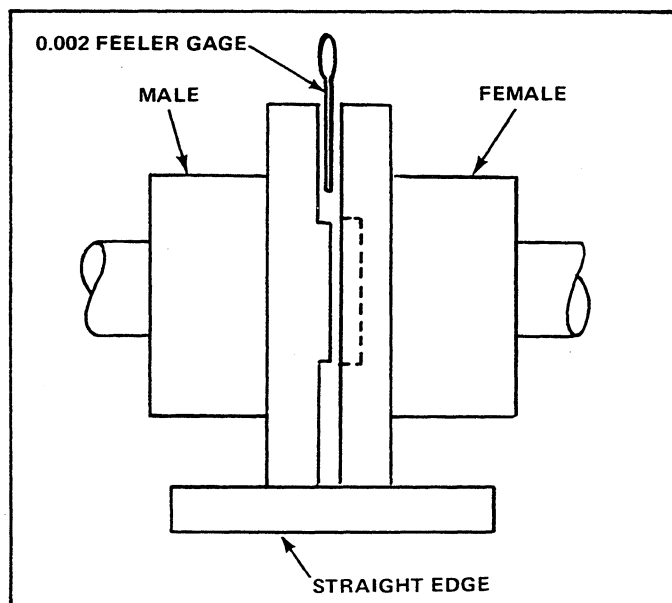

Figure 70. Checking Alignment (Parallelism) of the Coupling and Propeller Flanges.
(1) It will also be necessary to move the engine and gear from one side or the other on the bed to obtain horizontal alignment. This can be done with a jack placed horizontally between the engine and the foundation. At the same time, a straight edge is laid across the edges of the flanges at the top and side to check the parallel alignment of the coupling edges (See Fig. 70).
(2) As the engine and marine gear then comes into its aligned position, it will be possible to match the male and female halves of the output flange and propeller coupling, and prepare for bolting together. Care should be taken not to burr or mar this connection because the fit is very critical. Place a